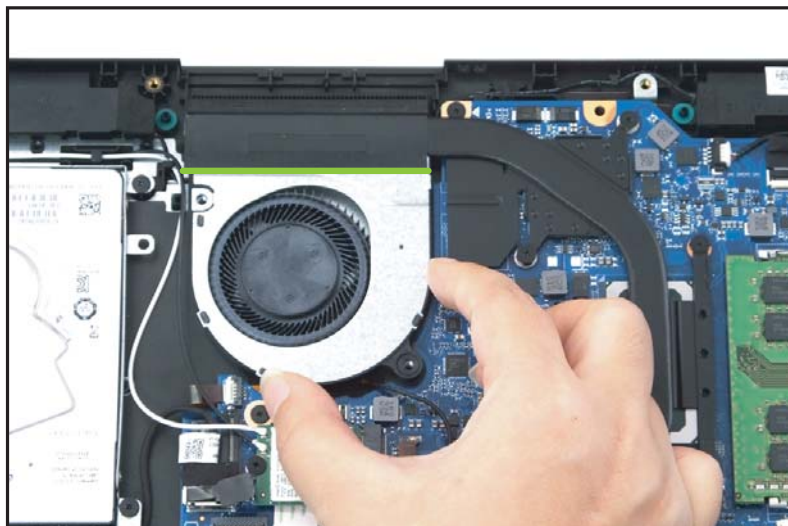

Figure 1-15. Fan Removal
4. Remove the fan from the top assembly (refer to Figure 1-15).